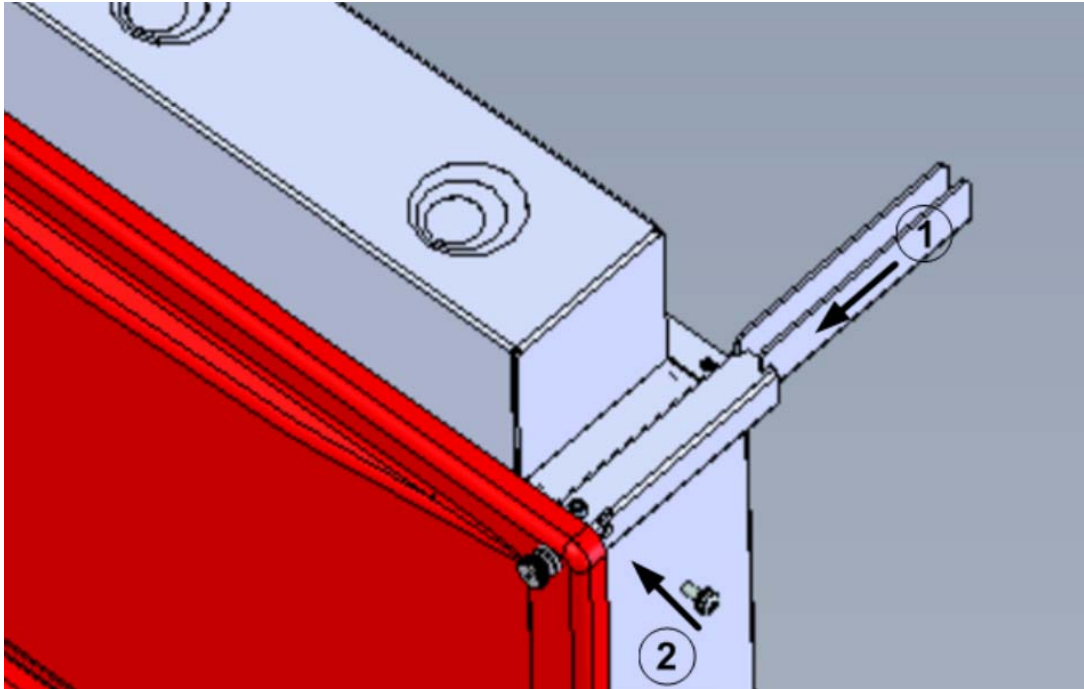

Fig. 8 Installation of wall support
- Prepare the inverter for installation and install the wall support (spacers) according to Fig. 8.